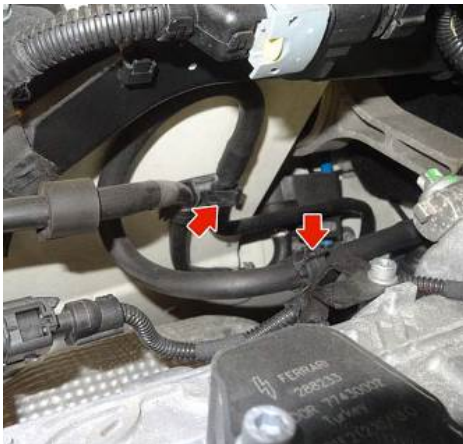

Fig.30
26. Secure the new engine line into the engine compartment clamps. (Fig.30)